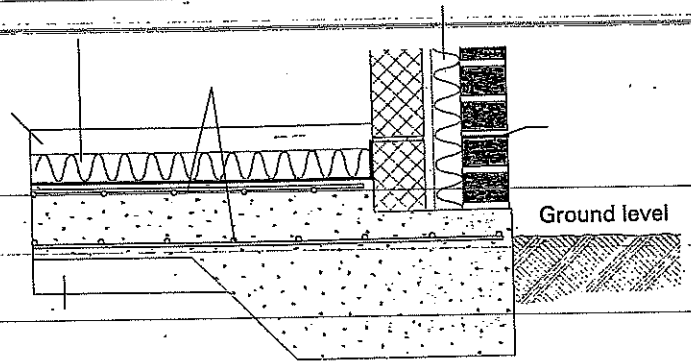

Figure 1.5 Foundation cross-section.
- 2 What is the name given to the foundation in the cross-section shown in Figure 1.5? [1]